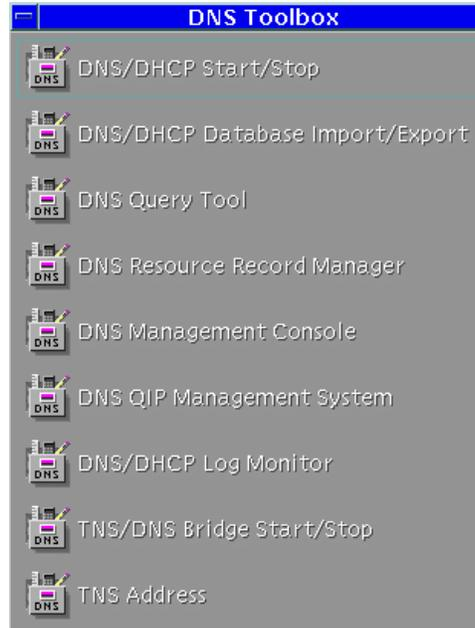

Figure 3 – DNS Toolbox
5. From the CDE Tool Bar select the **DNS Toolbox** submenu. See Figure 3.